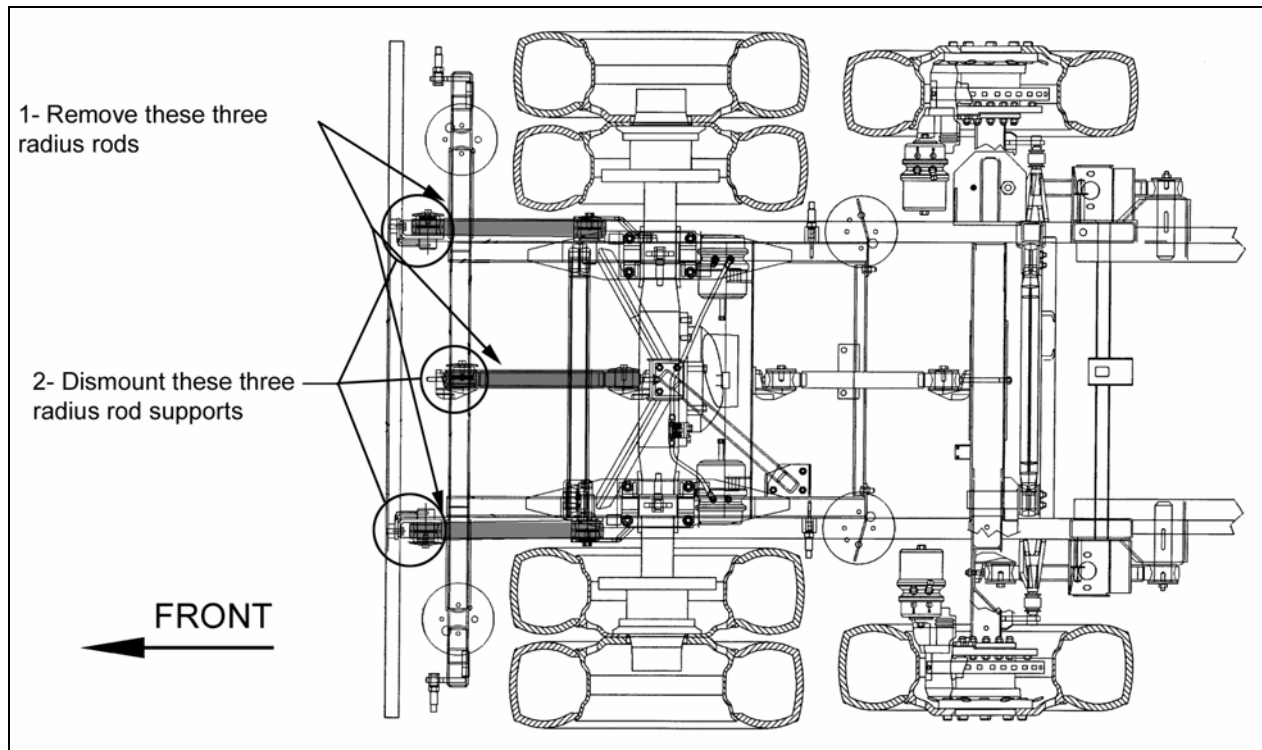

FIGURE 3: REAR SUSPENSION
5. Dismount successively the 3 radius rods identified in figure 3 by flattening the tabs of locking plate and by unscrewing the two bolts directly fastened into radius rod pivot (if needed, refer to maintenance manual).
6. Dismount successively the 3 radius rod supports identified in figure 3. Take note of the position and quantity of shims in order to reinstall the components in the same condition as they were to maintain proper vehicle alignment.